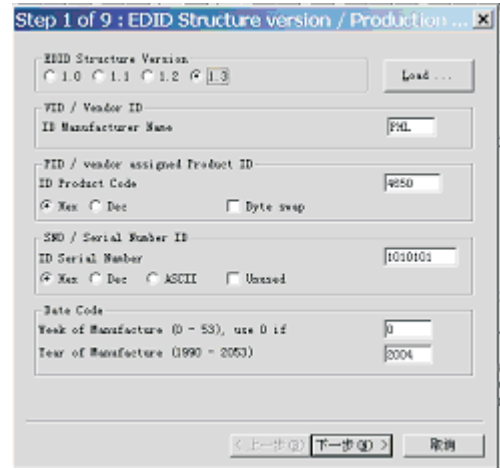

Fig. 14
- 1. Click icon (new function) from the tool bar, bring up Step 1 of 9 as shown in Fig. 14 . EDID45 DDC application provides the function selection and text change (select & fill out) from Step 1 to Step 9.